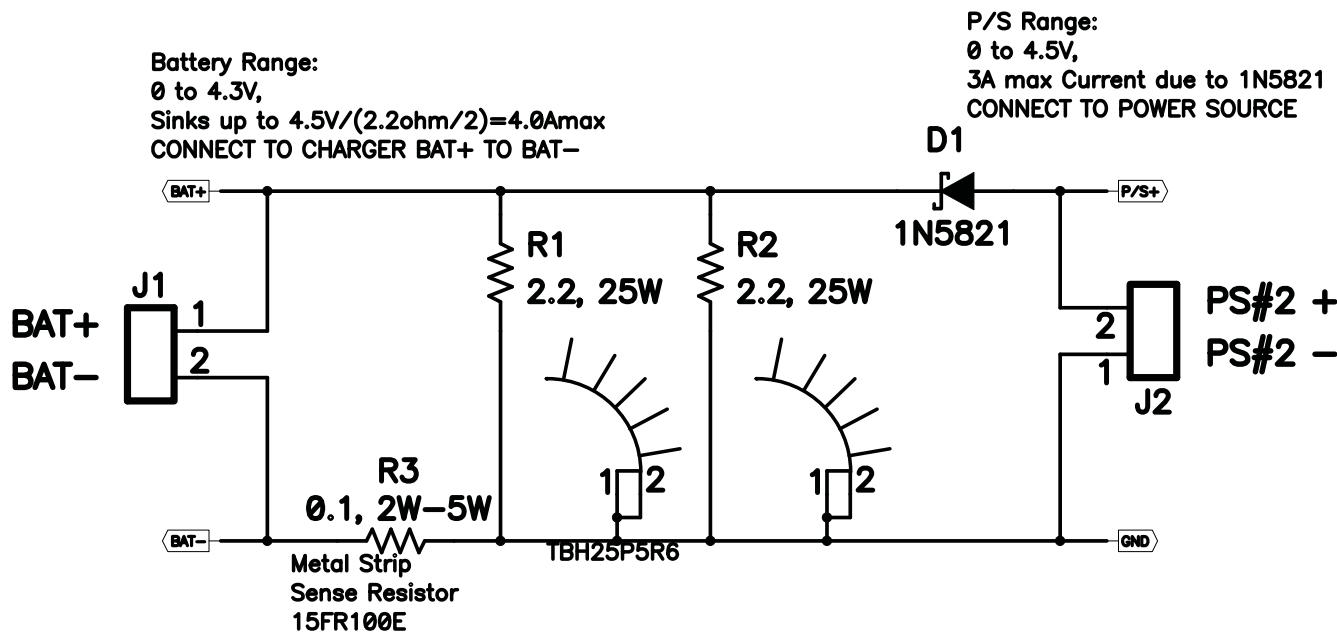

Figure 2. BAT Load (PR1010) Schematic
2. If not using a battery as the load, then power supply number 2 (PS2) capable of supplying up to 5 V at 5 A is required to power the circuit shown in Figure 2.
Testing with an actual battery is the best way to verify operation in the system. If a battery is unavailable, then a circuit similar to the one shown in Figure 2 can simulate a battery when connected to a second power supply.
3. If BAT_Load (PR1010) as shown in Figure 2 is used, connect Power Supply number 2 (PS2) set to approximately 3.6 V to the input side (PS2+/-) of BAT_Load (PR1010), then turn off PS2.